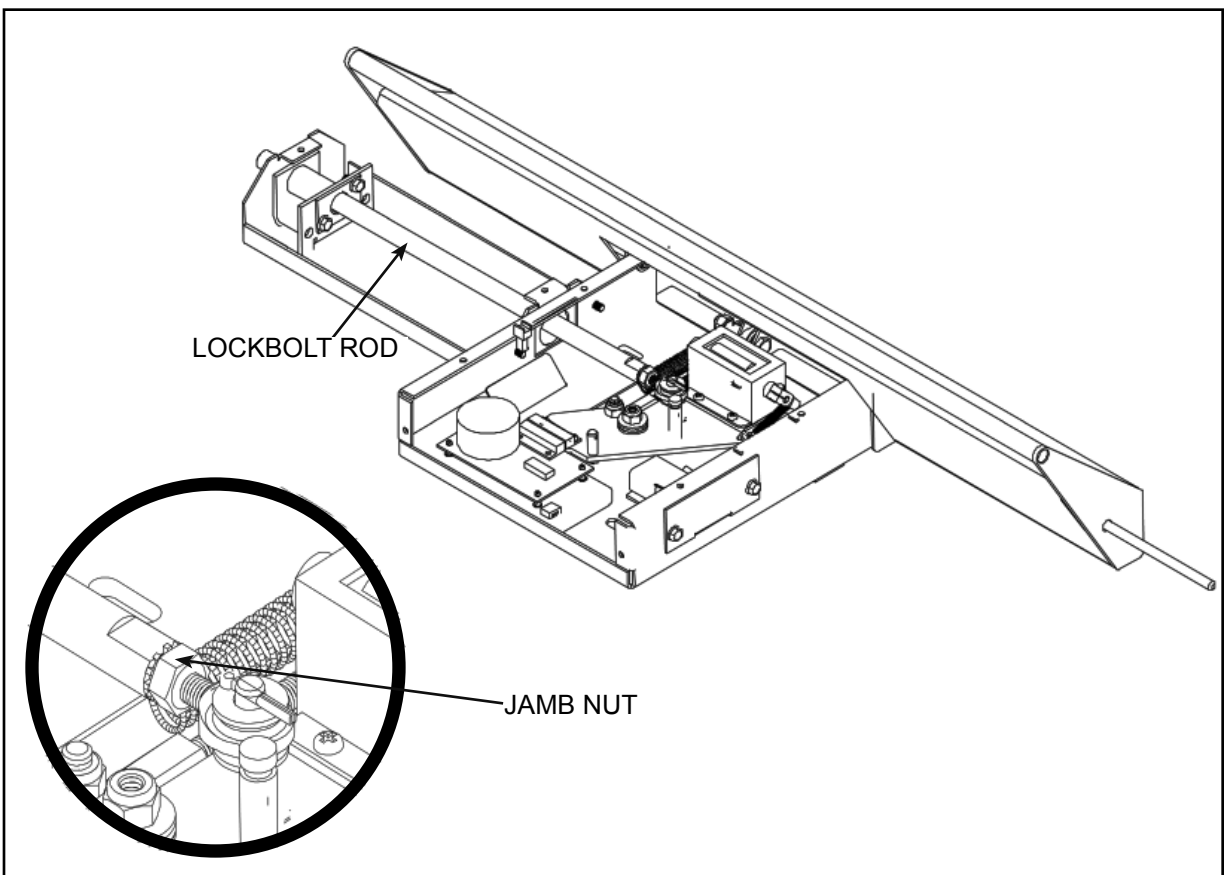

FIGURE 5
7. Keeping the door closed, check the distance between the end of the lock bolt and the door jamb stop. To ensure the maximum extension into the latch (installed later), the end of the lock bolt should just clear the jamb stop - the clearance should be approximately 1/16" but no more than 1/8". If necessary, adjust the extension of the lock bolt rod by loosening the jamb nut at the opposite end of the lock bolt rod - inside the Sur-Lock housing - and rotate the lock bolt rod as needed to obtain the proper clearance. Tighten the jamb nut securely! (See Figure 5)